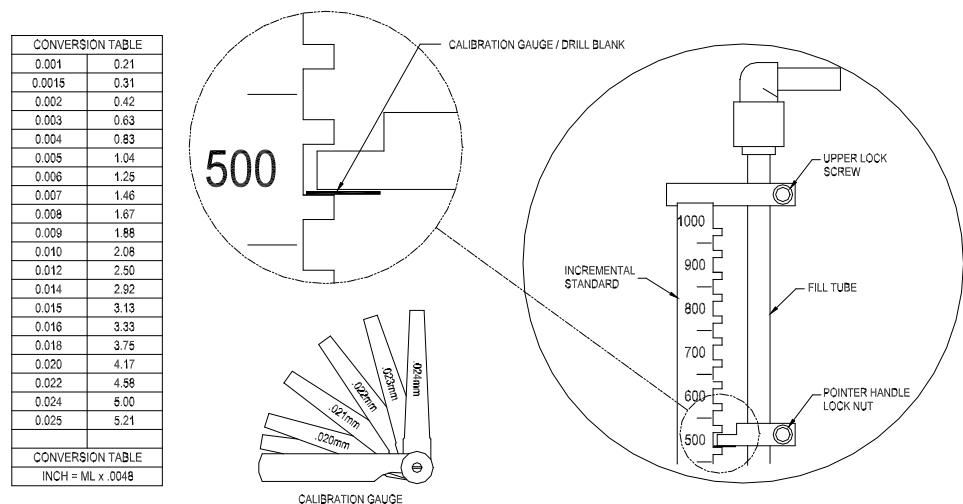

Figure 6-2
2. Using the calibration gauge (p/n 91-902-045), select a size which corresponds with the required volume change [Volume Change X .0048] or refer to the conversion chart in figure 6-2.
3. Raise the fill tube as necessary and place the calibration gauge between the pointer and the lower side of the incremental standard notch (see figure 6-2).